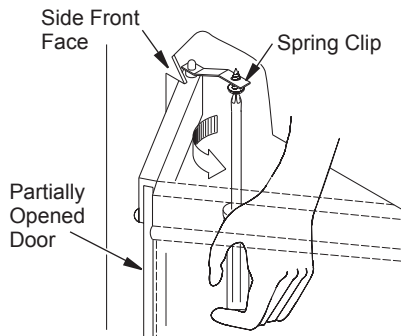

Figure 12 - Adjust Glass Door
- To adjust doors, slide partially open. Using a Phillips screwdriver, loosen hold-down screws on spring clips (see Figure 12).